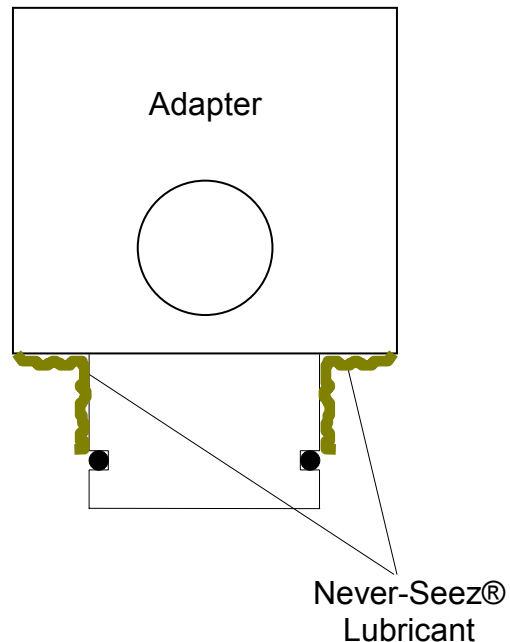

Figure 7
9. Apply Never-Seez® lubricant to the nozzle adapter as shown in Figure 7.